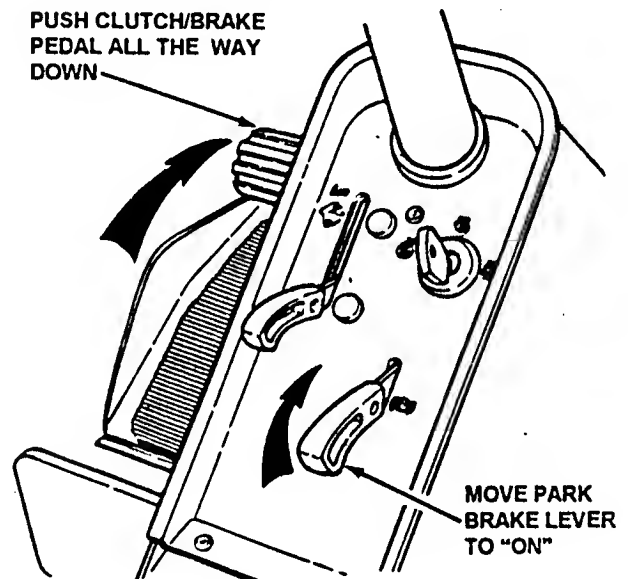

FIGURE 4.17
2. Depress clutch/brake pedal all the way down. Move and hold the park brake lever in the "ON" position, then release clutch/brake pedal to lock the park brake. See Figure 4.17.
2. Depress clutch/brake pedal all the way down. Move and hold the park brake lever in the "ON" position and release the clutch/brake pedal to lock the park brake. See Figure 4.17.